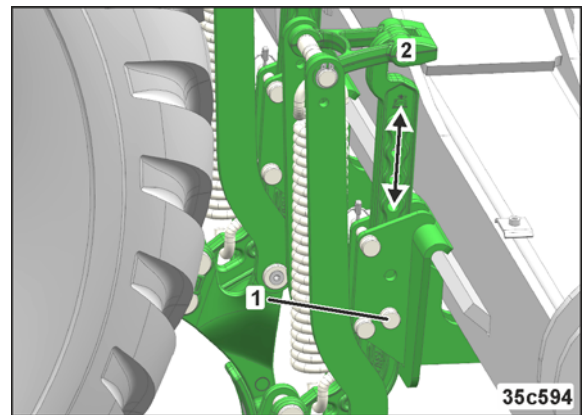

Fig. 207
1. Hold the wheel mark eradicator by the handle (Fig. 207/2).
2. Remove the pin (Fig. 207/1).